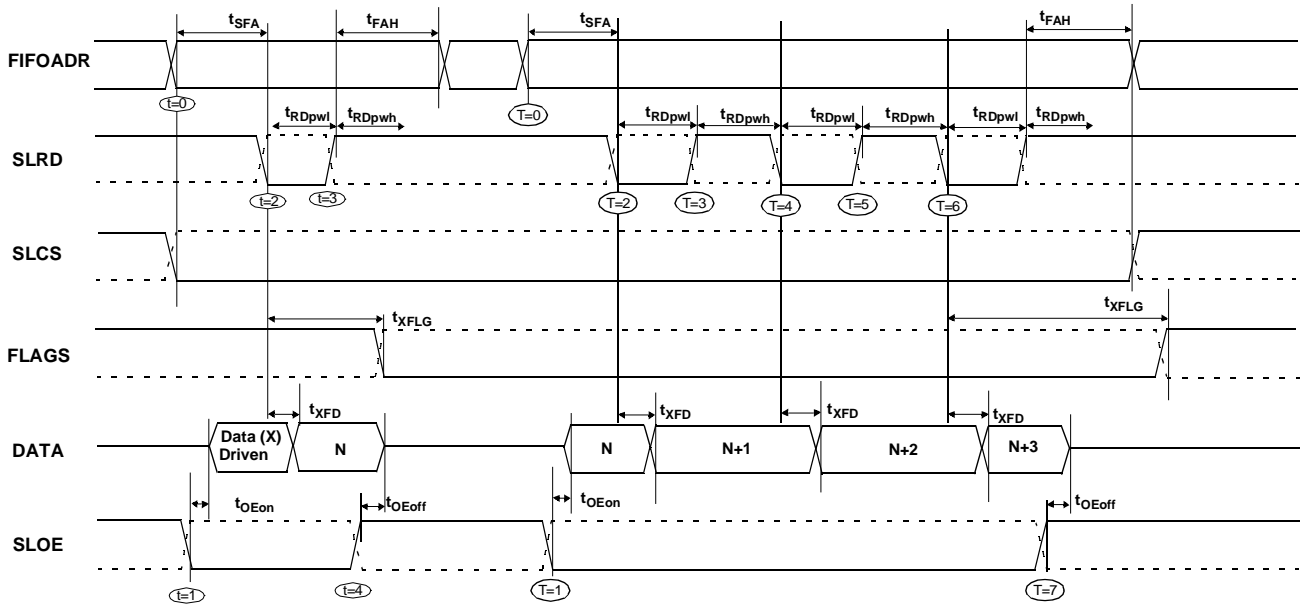

Figure 11-19. Slave FIFO Asynchronous Read Sequence and Timing Diagram
Figure 11-19 diagrams the timing relationship of the SLAVE FIFO signals during an asynchronous FIFO read. It shows a single read followed by a burst read.
- The data that will be driven, after asserting SLRD, is the updated data from the FIFO. This data is valid after a propagation delay of t_{XFD} from the activating edge of SLRD. In Figure 11-19, data N is the first valid data read from the FIFO. For data to appear on the data bus during the read cycle (i.e. SLRD is asserted), SLOE MUST be in an asserted state. SLRD and SLOE can also be tied together.